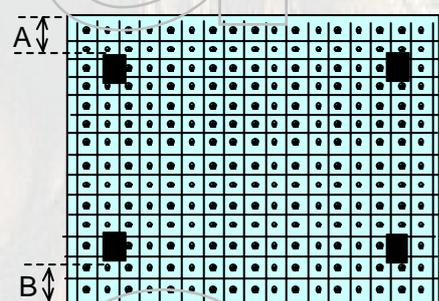

Fig.1-10 PAL CONVERGENCE
2. Adjust each distance of A (from ■ to top edge on screen) and B (from ■ to bottom edge on screen) so that they are equal. (Fig. 1-10)